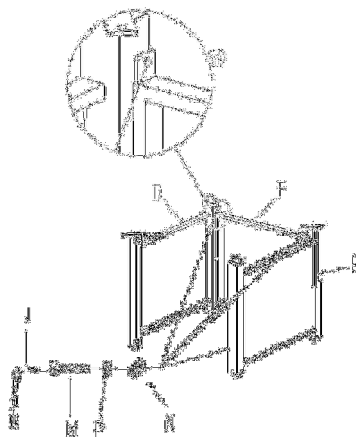

Figure 1
1. Attach the left side (D), right side (E), and back (F) with 4 bolts  $\frac{1}{4}$  in x 15 mm (M), 4 flat washers (N) and 4 spring washers (P) by using the Allen wrench (J) as shown on the right,(see Figure1).